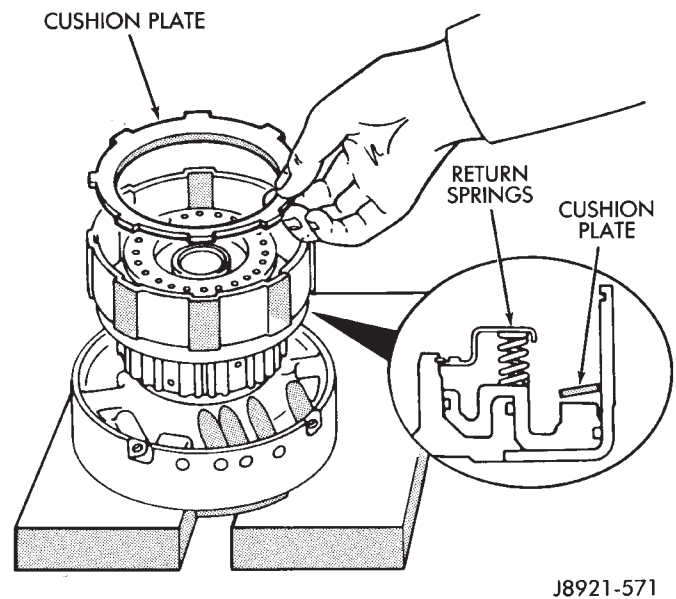

Fig. 5 Removing Cushion Plate
(9) Remove clutch pack cushion plate (Fig. 5).
(10) Compress clutch springs with Tool 7538 and remove piston snap ring.